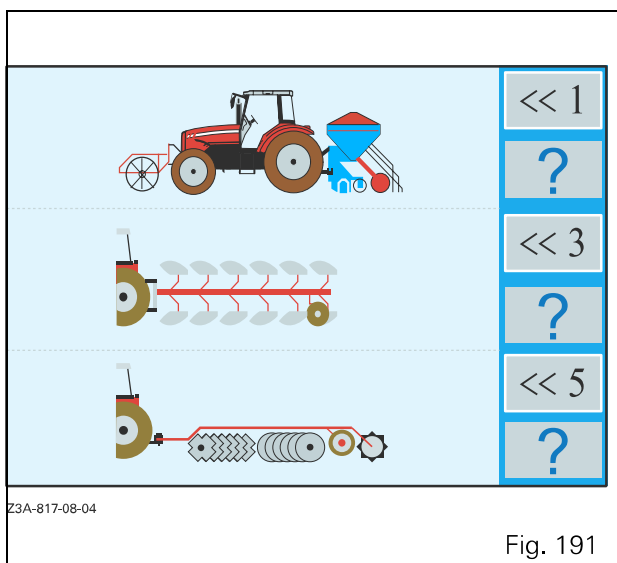
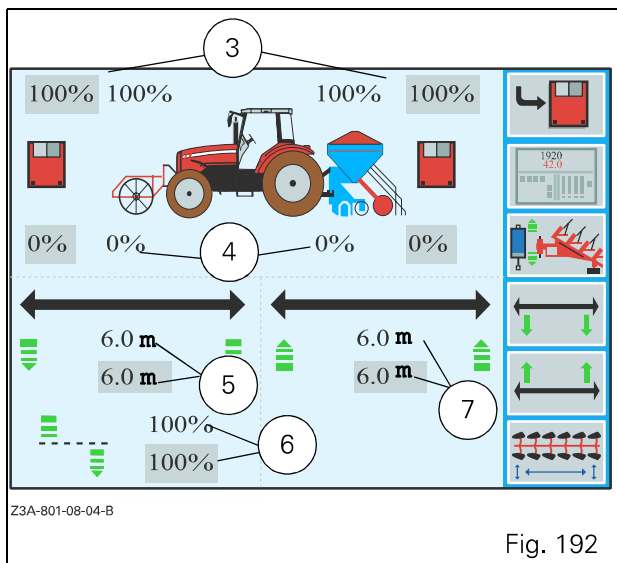

Fig. 191
Fig. 192
- press the encoder when the active function is highlighted by red text and a red rectangle around the icon (the window Fig. 191 is displayed).
- to exit an application, press the **ESC** key (2).
When the window (Fig. 191) is open, press the key «1». The window (Fig. 192) is displayed.